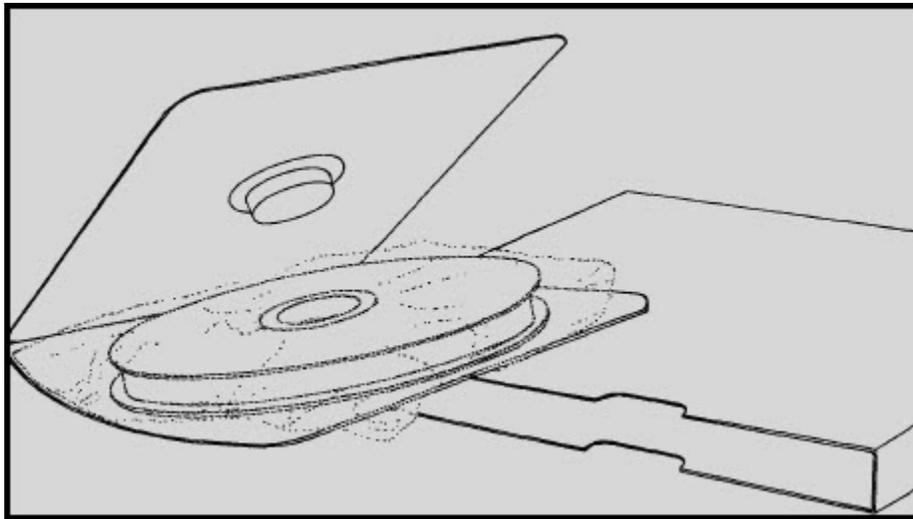

Figure 2-9 Reel box that supports reel by the hub
- DO always package tape reels so that they're supported by their hub. This prevents any pressure on the reel's flanges that might flex the flanges against the tape pack. Figure 2-9 shows a shipping box that supports the tape reel by the hub.